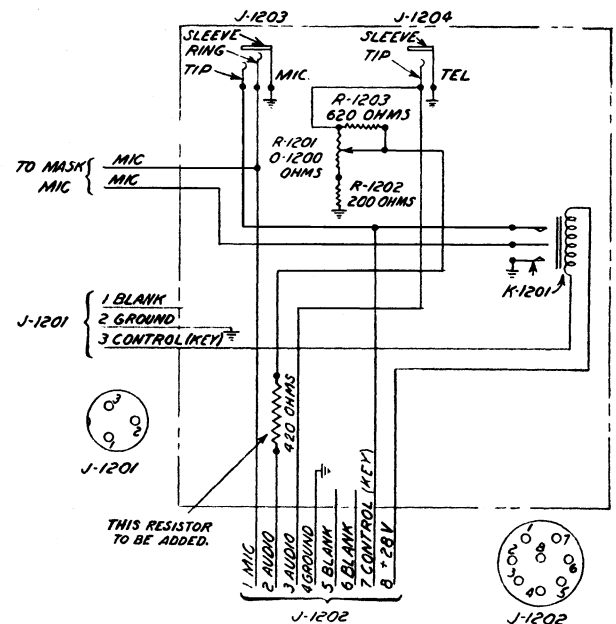

Figure 5—Modification of J-22B/ARC-5 Jack Box
10. The wiring in this unit should now be in accordance with BuAer drawing E-1276 (Fig. 5).